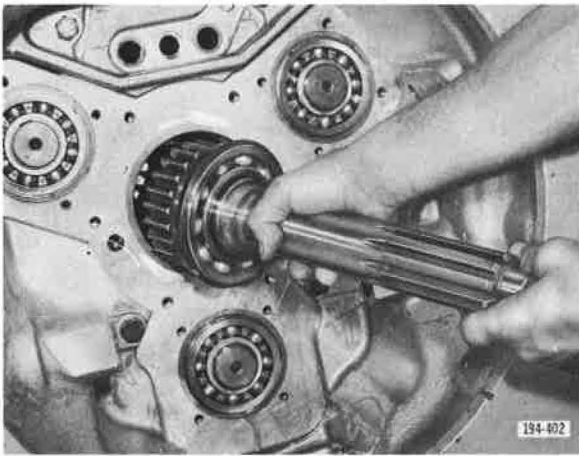

Figure 5-943. Installing Main Drive Pinion
4. Install main drive pinion assembly into place. See Figure 5-943.